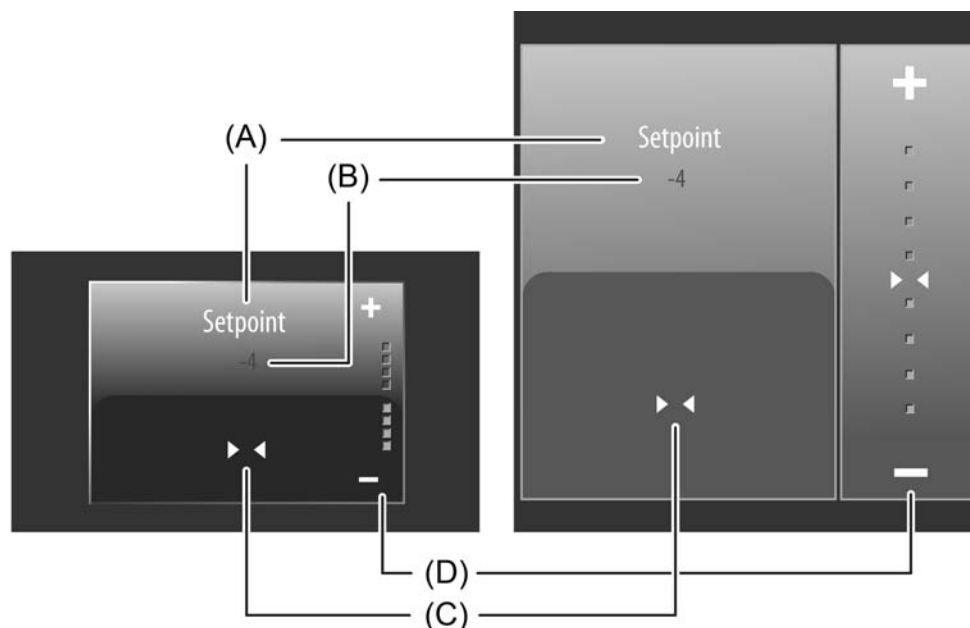

Figure 46: Example of an operating and display element of the channel function "setpoint shift, internal"
The display area contains different display elements (figure 46) that are influenced by ETS parameters. A name can be assigned to each KNX channel in the ETS (A). This text name is centred in the display element for display whereby controllable KNX functions are identified for the user (e.g. "setpoint").